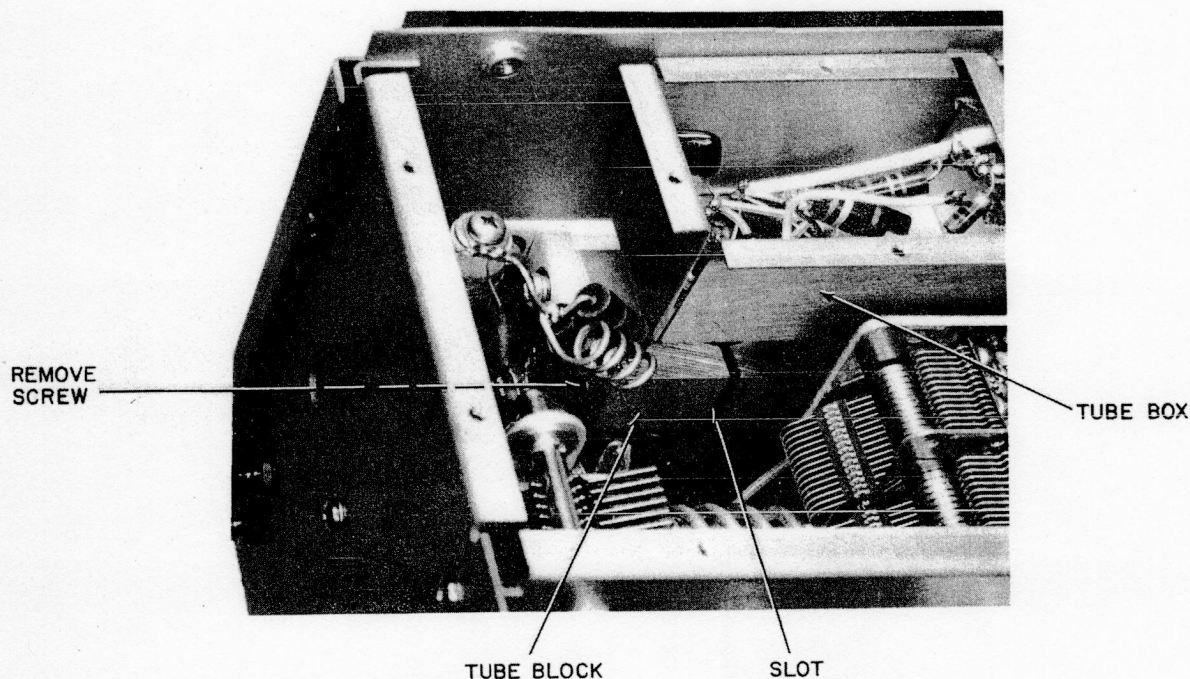

Figure 4-20. Power Amplifier Tube Removal
d. Remove the Allen screw (use 9/64 Allen wrench) in the tube block shown in Figure 4-20.